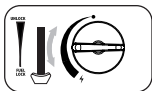

Fig. 5
6. Adjust the control knob to the required position (fig. 5). Never set the cartridge lever (6) to the "UNLOCK" position during use!.